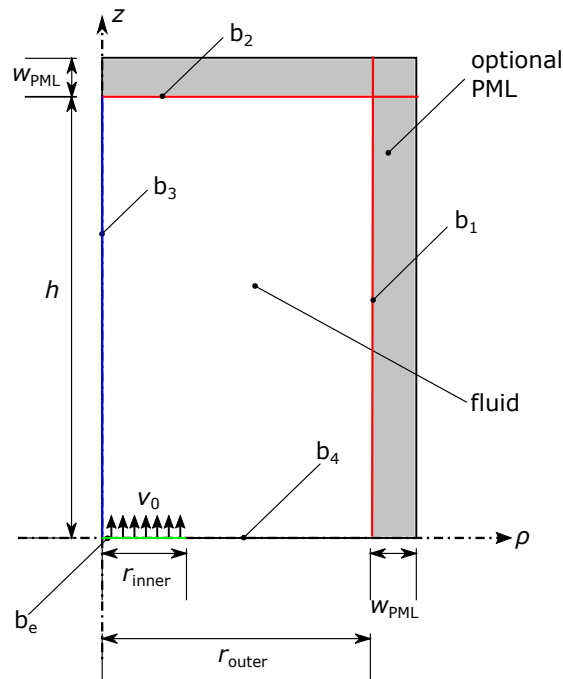

Figure 1: Acoustic setup consisting of a piston type transducer (green line) that is connected to a cylindrical fluid domain.
In this assignment you shall investigate on the acoustic field that is produced by a piston type transducer vibrating with sinusoidal surface normal velocities of amplitude v_0 under different types of boundary conditions. Fig. 1 depicts the r - z -cross-section of a cylindrical fluid domain. This fluid domain of radius r_{outer} and height h is enclosed at its top and outer right hand side boundary by a perfectly matched layer (PML) of width w_{PML} . A piston type transducer of radius r_{inner} is located at the bottom of the fluid domain. Its center axis is aligned with the center axis of the cylindrical fluid domain. As the surface normal velocity v_0 at the interface b_e between piston and fluid domain shall be known, it is sufficient to model the piston type transducer in form of a boundary line.
- 2.2. Model the geometry as in Fig. 1. Thereby, define all required dimensions as **Parameters**. Do not model the PML region for now, as you will add it later on. Use the values $r_{\text{inner}} = 8 \text{ m}$, $r_{\text{outer}} = 8 r_{\text{inner}}$ and $h = 10 r_{\text{inner}}$.
- 5.1. Similar to task 4.11., model the PML domain including both the right hand side as well as the top of the simulation domain, as depicted in Fig. 1.